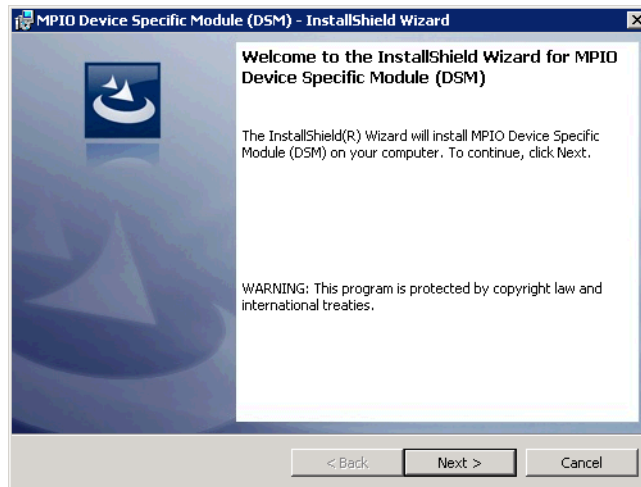
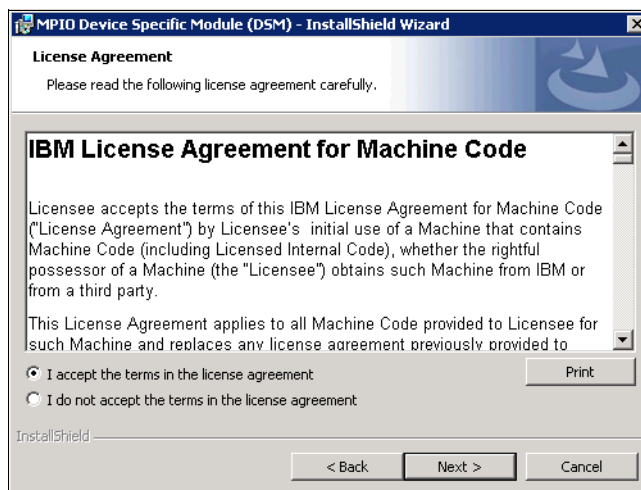

Figure 3-14 MPIO Device Specific Driver - Welcome screen
Figure 3-15 MPIO Device Specific Driver - License Agreement
1. For installing MPIO DSM, Log on with administrator rights for installing MPIO Device Specific Module support. Locate and run the installation executable file, click on **Next** on the Welcome windows and then accept the License Agreement, as shown in Figure 3-14 and Figure 3-15.